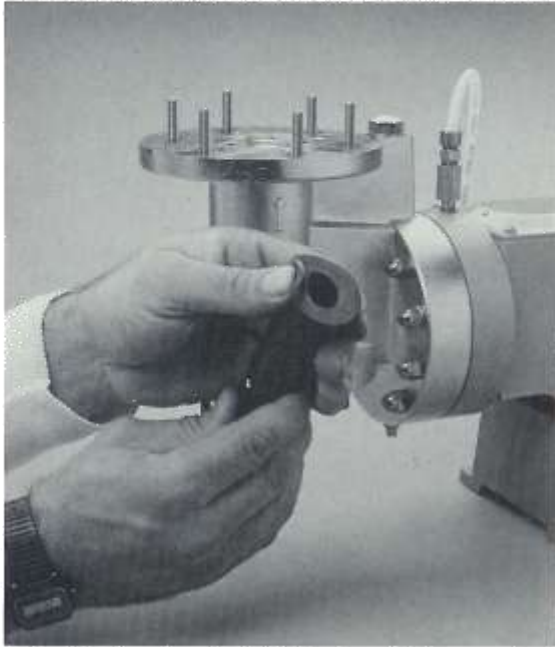

FIGURE 7.
13. Fold a point on the edge of the flange upward (Figure 7). Push the edge down the throat of the HYDRATUBE (Figure 8). Fold the sides of the flange inward to form a compact 45° "nose" and wrap tightly with a rubber band (Figure 9). This wrapped nose should be reasonably compact and secure.